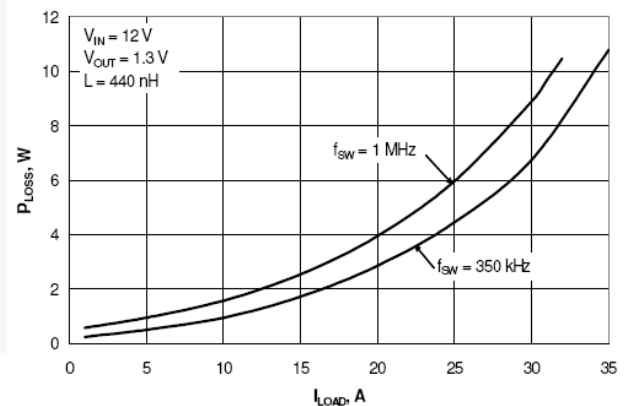
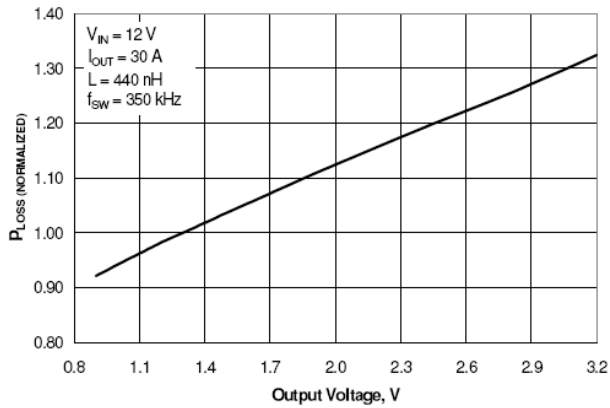

Figure 3. Module Power Loss vs. Iout
Figure 4. Normalized Module Ploss vs. Vout
The evaluation board total efficiency, SW node efficiency and module power loss are measured and calculated to represent DrMOS product performance in the datasheet. The FDMF6704 datasheet has several graphs which indicate module power loss, output current, normalized module power loss and each design parameter variations. Figure 3 shows an example of a graph in the datasheet for module power loss vs. output current.
Figure 3 represents a performance of FDMF6704 with particular parameter values, such as $V_{IN}=12$ V, $V_{OUT}=1.3$ V, $L_{OUT}=440$ nH, $F_{sw}=350$ kHz and output current from 0 to 35 A. This graph shows a performance under specific condition. In order to use the datasheet graphs easily in various system designs, normalized power loss graphs for each key parameter are included in the datasheet. In the Figure 4, power loss of the module is plotted with a normalized value according to the output voltage change. The reference value of module power loss for normalization is chosen as 1.3 Vout because this voltage is typical in a computing application, such as multi-phase VRD for Vcore. When the output voltage is 2 V, normalized module power loss will be around 1.13 times higher compared to 1.3 Vout.
- Find reference design parameter values and module power loss with Figure 3 → 6.8 W with 12 Vin, 5 Vcin, 1.3 Vout, 30 A, 350 kHz and 440 nH
- Find normalized value of module power loss with Figure 4 when Vout is 1.5 V → 1.04
- Find reference design parameter values and module power loss with Figure 3 → 4.6 W with 12 Vin, 5 Vcin, 1.3 Vout, 25 A, 350 kHz and 440 nH
- Ploss at 10 Vin, 5.5 Vcin and 2 Vout. Note Figure 4: